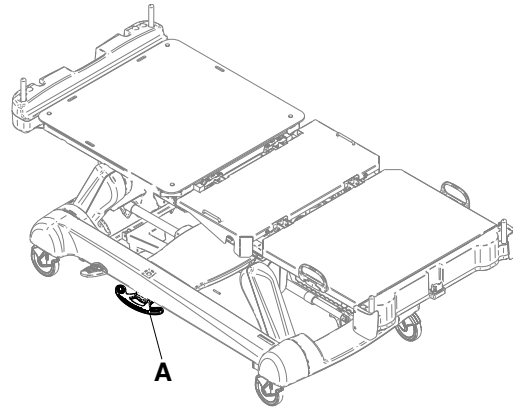

Figure 5: Flipped manual brake pedal
1. Flip down the brake pedal (A) (Figure 5 on page 20).